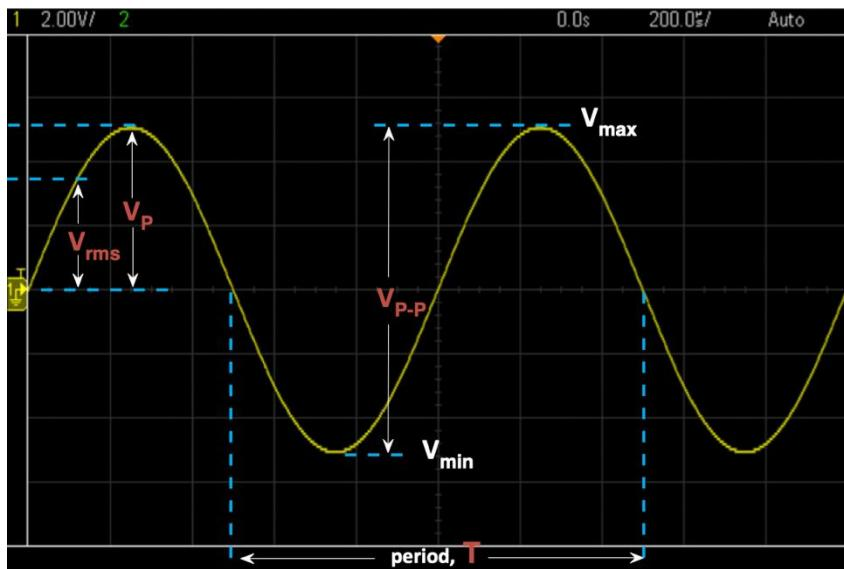

Figure 1.0a: Characterization of a time-varying sinusoidal signal
The lab exercises up to now focused on Direct Current (DC) signals whose values are constant over time. The DC power supply served to produce the DC input signals, and the DMM multimeter was used to measure the DC voltages and currents. In addition to DC signals, **Alternating Current (AC)** signals are an important part of circuit theory and design. AC voltage signals vary with time and are generally *periodic*, meaning they repeat with a specific time interval. There are many different AC waveforms but the three most common ones are *sine*, *square* and *triangle* waveforms. However, the widely used time-varying waveform is the *sine-wave* whose amplitude varies sinusoidally with time, as shown in **Figure 1.0a**.
In order to make AC voltage measurements, some properties of periodic waveforms need to be pre-defined. For a sinusoidal signal that periodically varies with time, it can be characterized by a number of parameters, some of which are shown in **Figure 1.0a**: